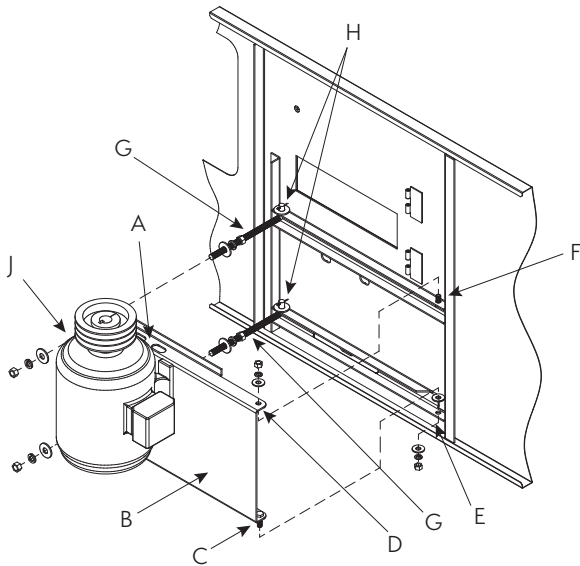

Figure 17a – External Motor Installation
All units narrower than 10' (3 m) wide have their motors installed outside the unit in a shaft up configuration as shown in **Figures 17a** and **17b** below. Due to shipping width restrictions, these motors cannot ship mounted on the units since they would extend past the width of the truck. For this reason, the motor(s), motor base(s), motor guard(s), J-bolts, pivot pins and belt(s) are shipped in the cold-water basin of the cooling tower. Please follow the step-by-step instructions below to properly install these components.
1. Study **Figure 17a** above before installing the motor base on the unit.